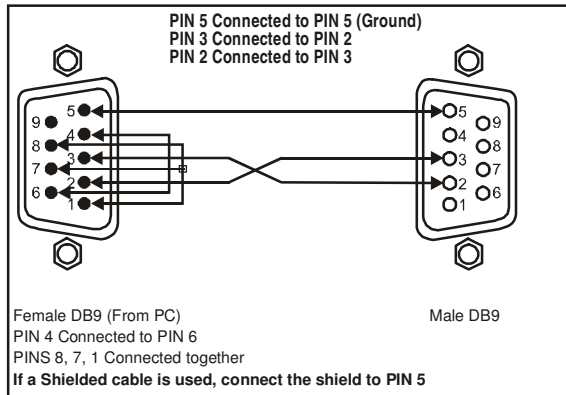

Figure 4: Connecting a PC without using a Null-modem Adapter
- Connect the RS-232 DB9 port on your PC to the RS-232 DB9 rear panel port on the **PIP-500** unit, as Figure 4 illustrates